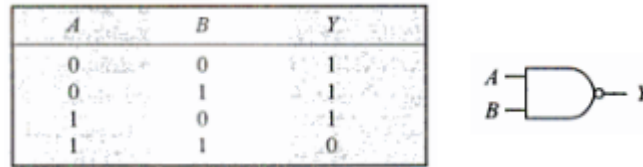

Figure 2.25: (a)Truth table (b)NAND symbol
- This represents an AND gate followed by an inverter (Figure 2.25 & Table 2.3).